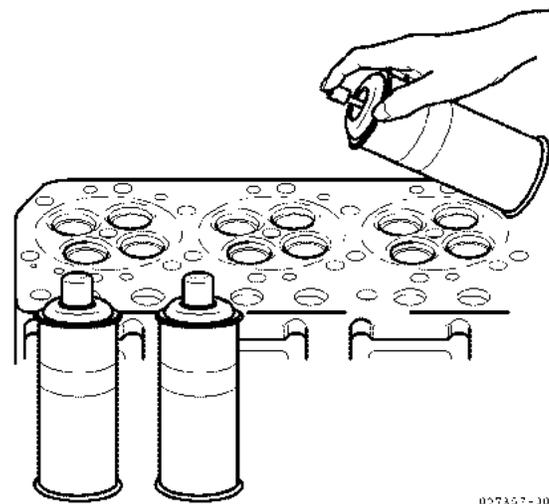

Figure 5-64
- Check for cracks in the combustion surface. Remove the fuel injection nozzle, intake / exhaust valve and clean the combustion surface. Check for discoloration or distortion and conduct a dye penetrant inspection to check for any cracks (Figure 5-64).